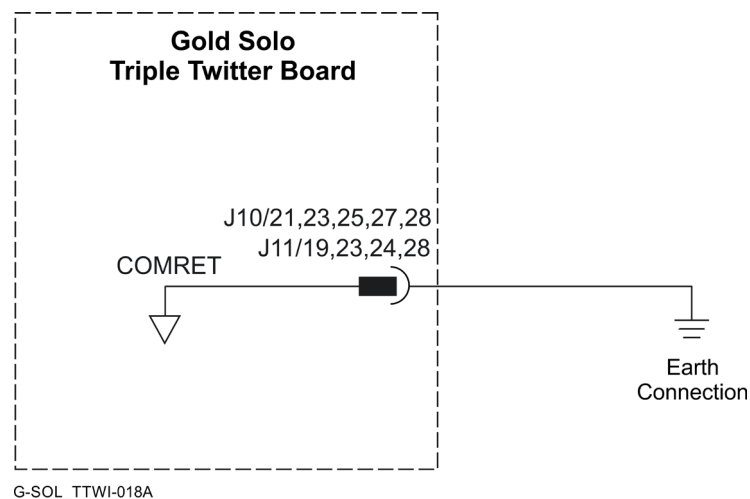

Figure 5: COMRET Connection to the PE
At least one COMRET pin (Figure 5) must be connected to the Protective Earth (PE).